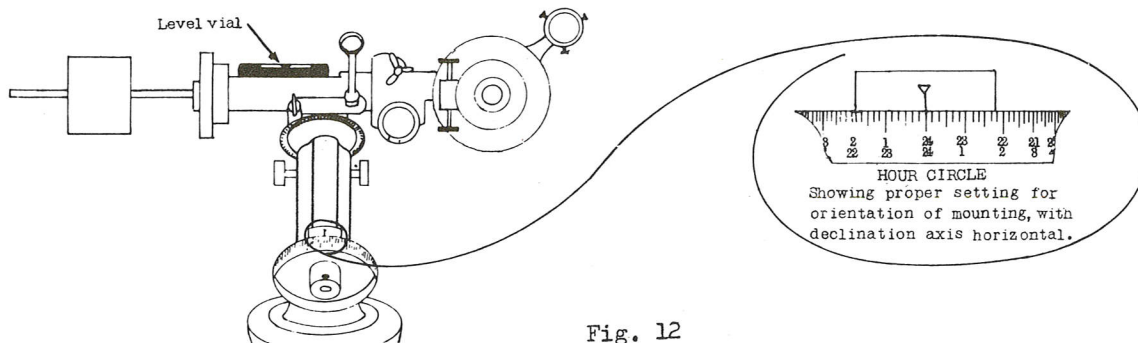

Fig. 12
- a) Place the declination axis in the horizontal position precisely, by placing the hand level on the surface of the shaft housing as shown in Fig. 12. Center the bubble of the level by turning the right ascension slow motion control (1-10) in the appropriate direction.